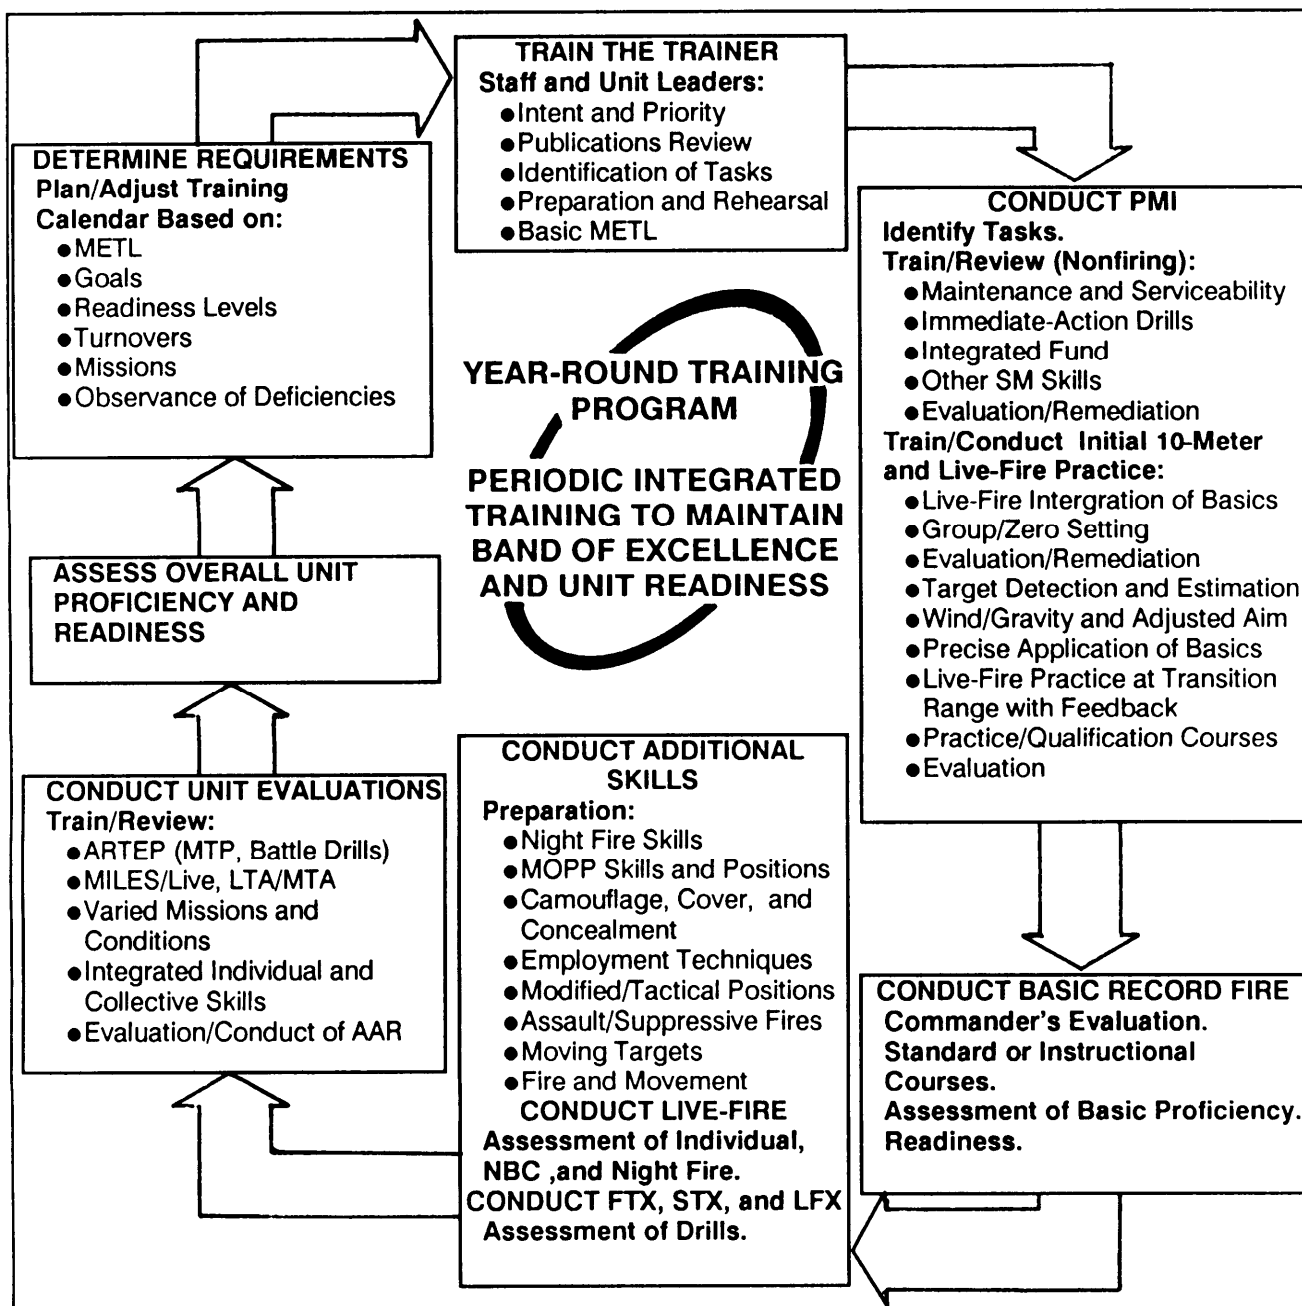

Figure 1-1. Unit marksmanship sustainment strategy.
c. The training strategy for caliber .50 MG marksmanship begins in selected resident training and continues in the unit. An example of this overall process is illustrated in Figure 1-1 and provides a concept of the
j. Unit training programs maintain the soldiers' proficiency level. The ultimate goal of a unit marksmanship program is to maintain well-trained gunners so a unit can survive and win on the battlefield. The trainer must realize that qualification is not an end, but a step toward reaching this combat requirement. (See Figure 1-1.)
(1) To reach this goal, the gunner must be able to position and use his weapon under the following combat conditions:
(2) The unit's program must provide fundamental training to sustain and improve the skills and proficiency the soldier has attained during his basic marksmanship training. Once basic skills have been mastered, these must be improved by conducting new or advanced individual and collective training. The program must develop collective firing skills by incorporating marksmanship into tactical exercises. This training must maintain the soldier's confidence in the weapon and his skills. A soldier's